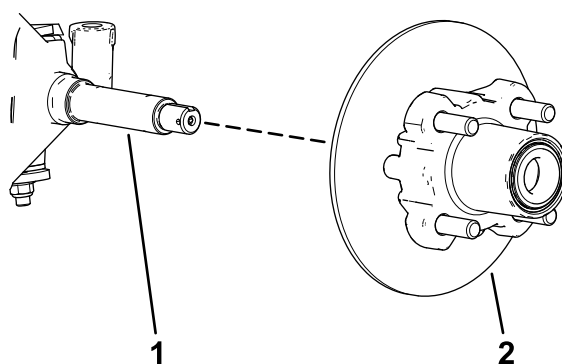
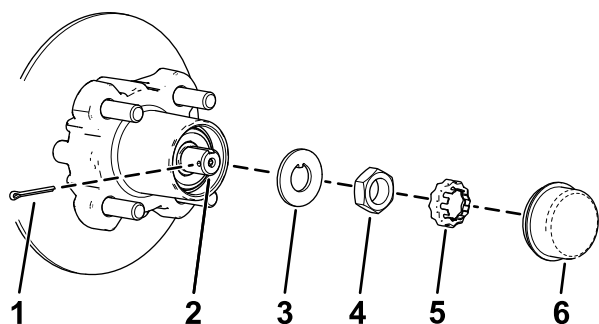

Figure 32
Figure 31
4. Remove the dust cap from the hub (Figure 31).
5. Remove the cotter pin and nut retainer from the spindle and spindle nut (Figure 31).
6. Remove the spindle nut from the spindle, and separate the hub and rotor assembly from the spindle (Figure 31 and Figure 32).